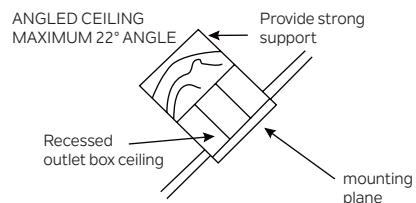

Fig. 3
**NOTE:** You must use 12" or longer downrod for 22° slope (max angle 22°). (Fig. 3)